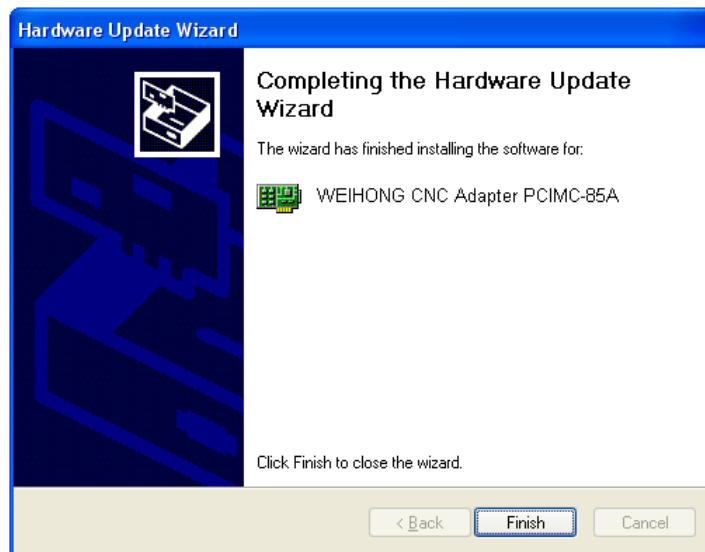

Fig. 3-8 Update driver complete
- 8) After updating completed, a new window, as shown in Fig. 3-8, appears. You just need to click “Finish” to complete the update of the hardware driver, and then you can open the software successfully.